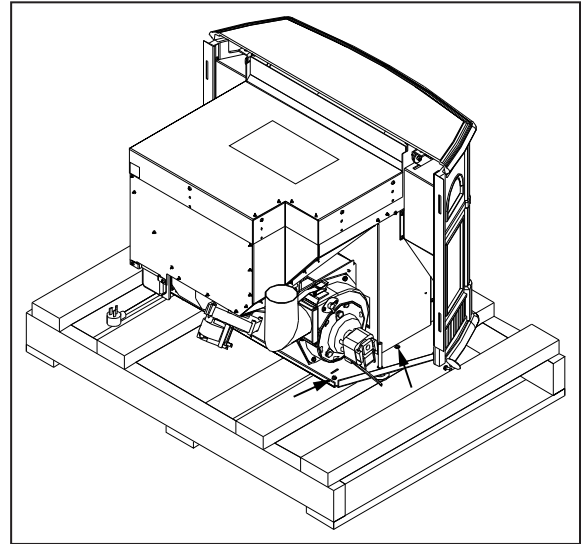

Figure 1: Removing Stove From the Pallet.
Use a flathead screwdriver or  $\frac{5}{16}$ " socket to remove the four (4) screws that secure the Empress FPI to the pallet. Two (2) of the screws are shown in Figure 1 and the other two (2) are in the same location but on the opposite side; behind the circuit board and beside the power cord.